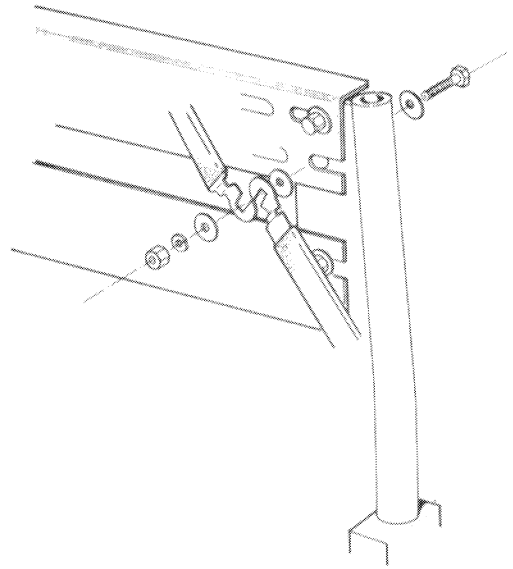

Fig. 23 Equipment rack bonding point: $\frac{3}{4}$ ton FFR
b. $\frac{3}{4}$ ton FFR only: Remove the second bolt down of the four securing the angle part of the equipment rack to the righthand vertical support. Replace this bolt with the M6 x 25 bolt, nut, etc. as detailed in a. above. See fig. 23.